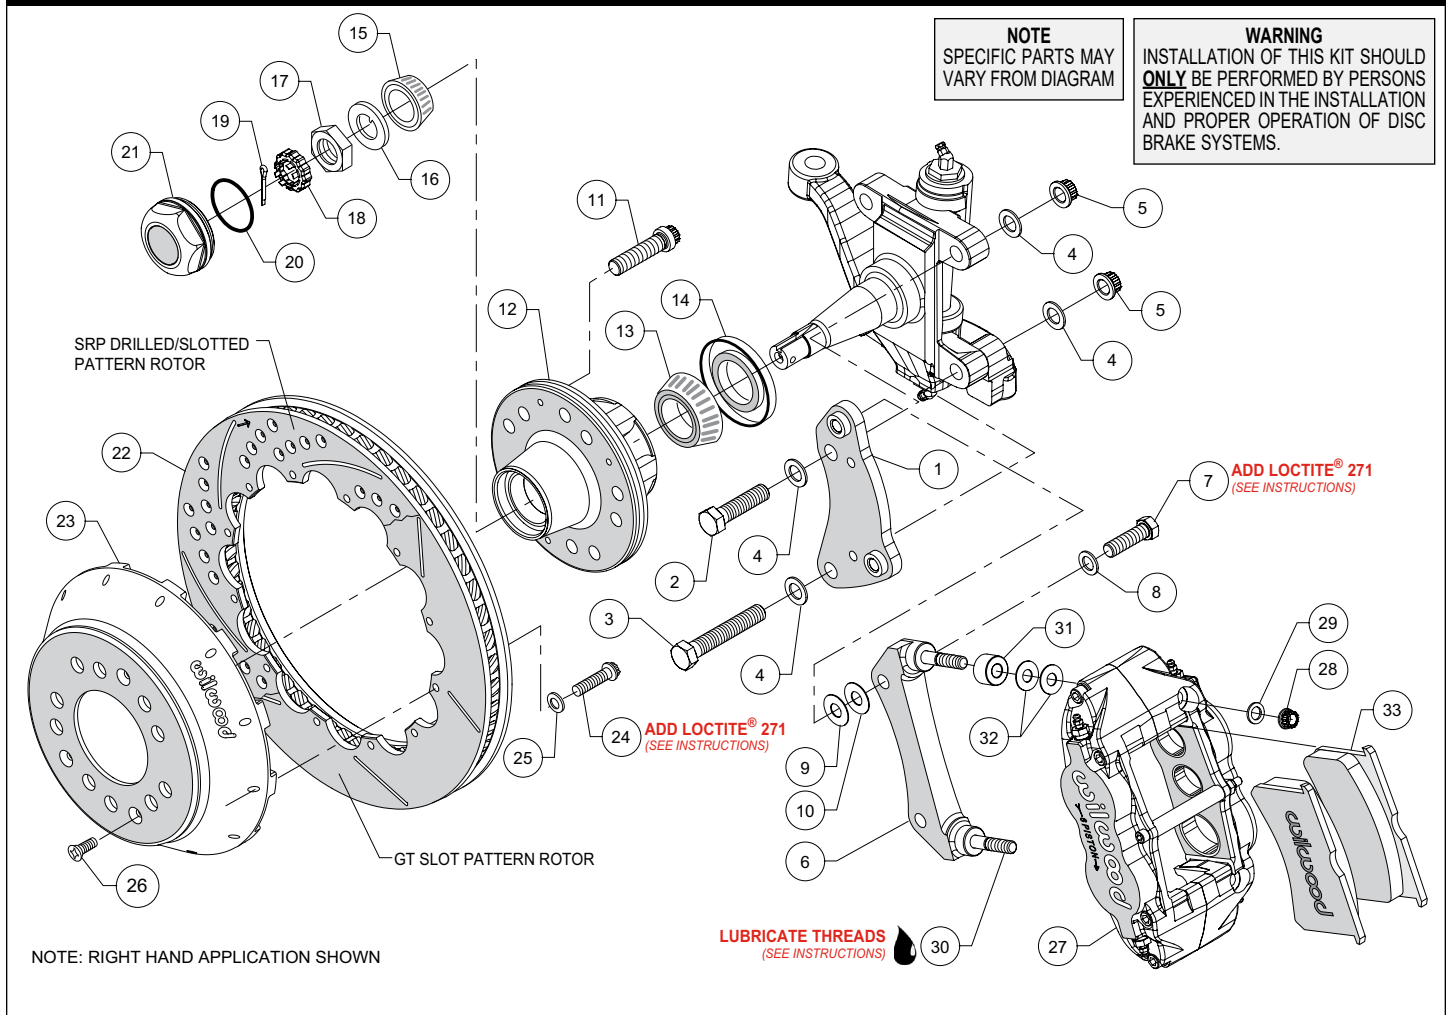

Figure 1. Typical Installation Configuration
NOTE: Numbers in parenthesis refer to the parts list and Figure 1 on the preceding pages.
- Orient the spindle bracket (1) as shown in Figure 1 and Photo 1, and install using bolts (2 and 3), washers (4) and nuts (5). Temporarily tighten the mounting bolts. Ensure that the flanged heads of the clinch nuts in the bracket are facing outboard, Photo 1. **NOTE:** The bracket must fit squarely against the mount bosses on the upright. Inspect for interference from casting irregularities, machining ridges, burrs, etc. Torque lock nuts (5) to 65 ft-lb.
- The caliper mount radial bracket (6) should initially be installed with clean, dry threads on the mounting bolts. Orient the bracket as shown in Figure 1, and Photo 2. Install onto the spindle bracket using bolts (7), and washers (8). Initially place one .030 thick shims (9) on each bolt between the radial and spindle brackets, Figure 1. Temporarily tighten the mounting bolts. Later, after the caliper alignment has been checked, the mount bolts will be secured using red *Loctite*® 271.
- Install wheel studs (11) into the hub (12), Photo 3. Torque to 77 ft-lb. **NOTE:** There are two five lug patterns in the hub (5 x 4.50 and 5 x 4.75). Ensure the correct hub stud pattern is being used to fit the wheel application.
- Pack the large inner bearing cone (13) with high temperature disc brake bearing grease (available from your local auto parts store) and install into the backside of the hub (12), Photo 4.
- Install the grease seal (14) by pressing into the backside of the hub (12), flush with the end of the hub, Photo 5.
- Pack the small outer bearing cone (15) with high temperature disc brake bearing grease and install into the front side of the hub (12), Photo 6. Slide the hub assembly onto the spindle. Secure using spindle washer (16) and spindle nut (17). Adjust bearings per OEM specifications. Install spindle nut retainer (18) and cotter pin (19), Photo 7.
- Screw dust cap (21) into hub (12), Photo 8. Friction created by the o-ring (20) on the dust cap keeps it from unscrewing. **NOTE:** The O.D. of the existing OEM spindle washer may be larger than the I.D. of the dust cap not allowing it to seat against the hub face. Therefore, use the spindle washer (16) supplied with the kit instead of the OEM washer.
- Orient the rotor (22) and the hat (23) as shown in Figure 1 and Photo 9. Attach rotor to hat using bolts (24) and washers (25). Apply red *Loctite*® 271 to the bolt threads and torque to 155 in-lb using a criss-cross pattern. For an added measure of security, the bolts may be safety wired using standard 0.032 inch diameter stainless steel safety wire as shown in Figure 3. Refer to Wilwood's data sheet DS-386 (available at www.wilwood.com/Pdf/DataSheets/ds386.pdf) for complete safety wire installation instructions.
- Slide the hat/rotor assembly (23/22) onto the hub (12) taking care to align the small countersunk holes in the hat with the small threaded holes in the hub, Photo 10. **NOTE:** The hat must fit flush against the hub face or excessive rotor run out may result. Install three flat head screws (26) through the small holes in the hat, and torque to 85 in-lb.
- NOTE:** This kit contains distinct right and left hand calipers that must be mounted in a specific direction, as described below. Lubricate the caliper mounting studs (30) with lightweight oil. Initially place one spacer (31) and two .035" thick shims (32) on each stud between the caliper and the bracket, as shown in Figure 1 and Photo 11. Mount the caliper (27) onto the bracket (6) using lock nuts (28) and washers (29), Figure 1. Ensure that the caliper is mounted so the largest pistons are at the rotor exit end of the caliper, in relation to the direction of rotor rotation. Temporarily tighten the lock nuts and view the rotor through the top opening of the caliper. The rotor should be centered in the caliper, Photo 12. If not, adjust by adding or subtracting shims (9 and/or 10) between the spindle bracket (1) and the caliper mount bracket (6). Always use the same amount of shims on each of